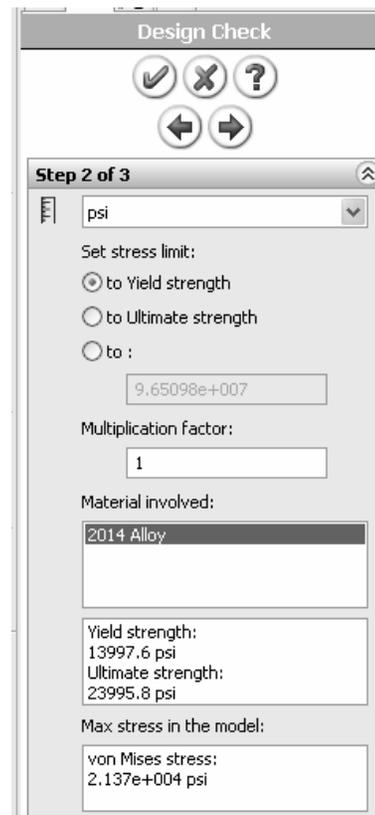

Figure 21 – Step 2 of 3 in the **Design Check** process.
- Proceed to the next step by clicking the right facing arrow button  at the top of this property manager. The **Design Check, Step 2 of 3** dialogue box appears as shown in Fig. 21.